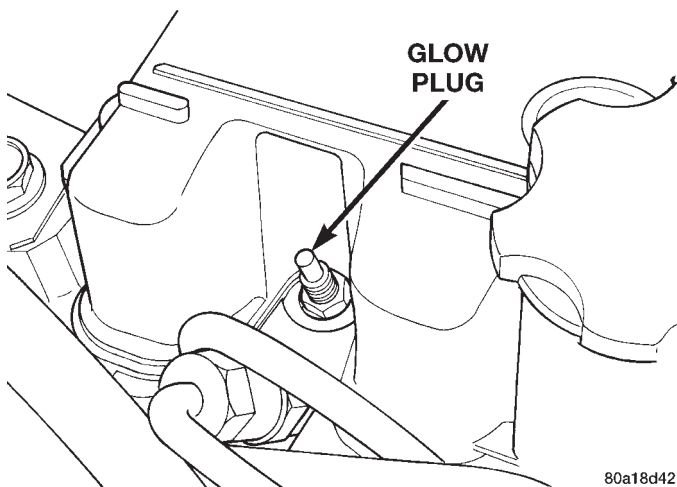

Fig. 21 Glow Plug
The glow plugs are located above each fuel injector (Fig. 21). Four individual plugs are used.
- (4) Remove the glow plug (Fig. 21) from cylinder head.